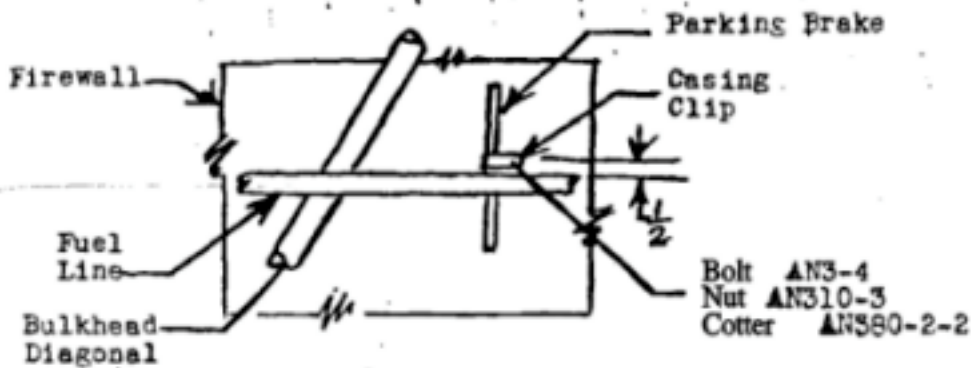

Fig. 1
2. On the aft side of the firewall the parking brake bowden casing passes at right angles to the 3/8 O.D. fuel line and passes between the firewall and the fuel line. There is a space between the firewall and the fuel line of approx. 7/8" at this point. In order to prevent the semi-loose bowden casing from vibrating against the fuel line and eventually wearing it through, it is recommended that a clip (Note figure 1) be placed around the bowden casing, retaining it firmly to the firewall at a point approx. 1/2" above the fuel line. This clip should be bolted through the firewall and safetied in place. This will prevent the bowden casing from wearing the fuel line at this point. Clips may be readily made by using .135 or .049 steel or even .051 aluminum sheet bent to the proper shape and then bolted in place. However, if desired, clips of the proper type are available upon request from Rearwin Aircraft & Engines, Inc.
The inspection plate for the front spar should be installed in the leading edge skin immediately in front of the spar as shown in Fig. 1 & 2. In doing this, the following steps should be followed:
The inspection plate for the rear spar should be installed immediately behind the rear spar in the fabric as shown in Fig. 1 & 2. The inspection spate assembly consists of pyraline ring doped to the fabric surface with either clear or pigmented dope. After the ring has dried to the surface, an additional coat of dope should be applied to the exterior of the ring. After drying, the fabric is cut from the ring I.D. and the aluminum plate (retained by a spring clip) is inserted.